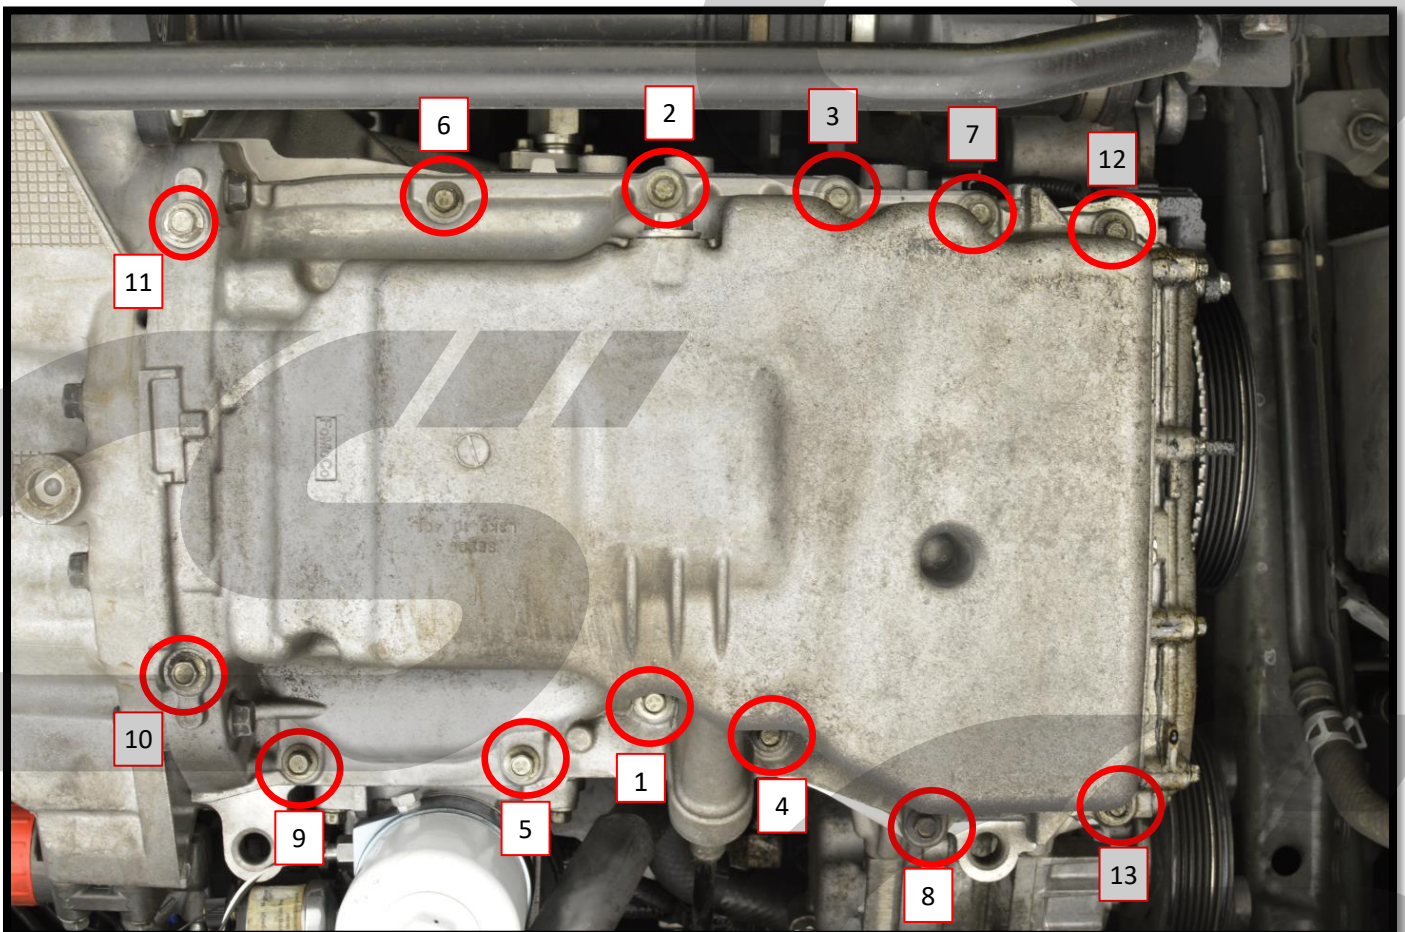

Figure 7d
- e) **Secure the oil pan with the thirteen (13) 10mm bolts removed earlier.** Follow the order shown in Figure 7d. Torque each bolt as you go to **12-17 ft-lbs.** Bolts 10 and 11 are the long bolts.